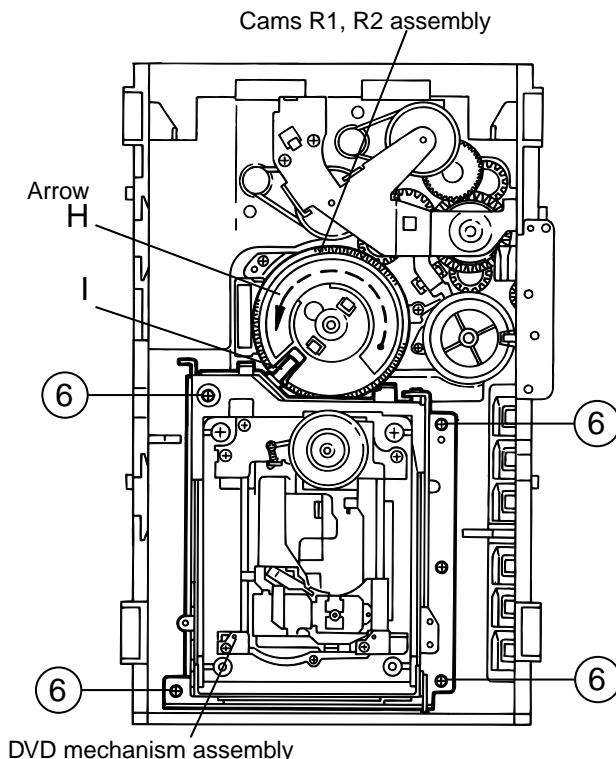

Fig.10
■ Removing the DVD mechanism assembly (See Fig.10)
1. While turning the cams R1 and R2 assembly in the arrow direction "H" , align the shaft "I" of the DVD mechanism assembly to the position shown in Fig.10.